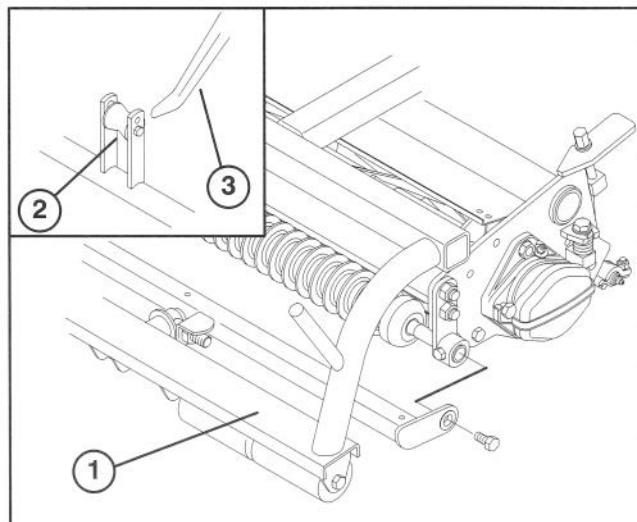

Figure 8
2. Slide the cutting unit under the pull frame while hooking the lift roller onto lift arm (Fig. 8).
3. Mount traction unit pull frame to cutting unit with (2) shoulder bolts.